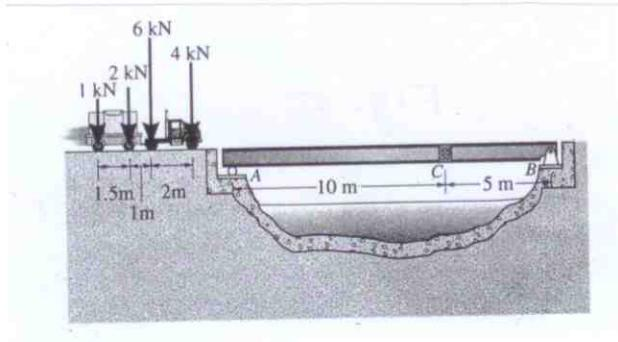

Fig. 5
**Problem 5:** The truck and trailer exerts the wheel reactions shown on the deck of the girder bridge. Determine the largest moment it exerts in the splice. Assume the truck travels in *either direction* along the centre of the deck, and therefore transfers half of the load shown to each of the two side girders. Assume the splice is a fixed connection and, like the girder, can support both shear and moment (Fig.5).